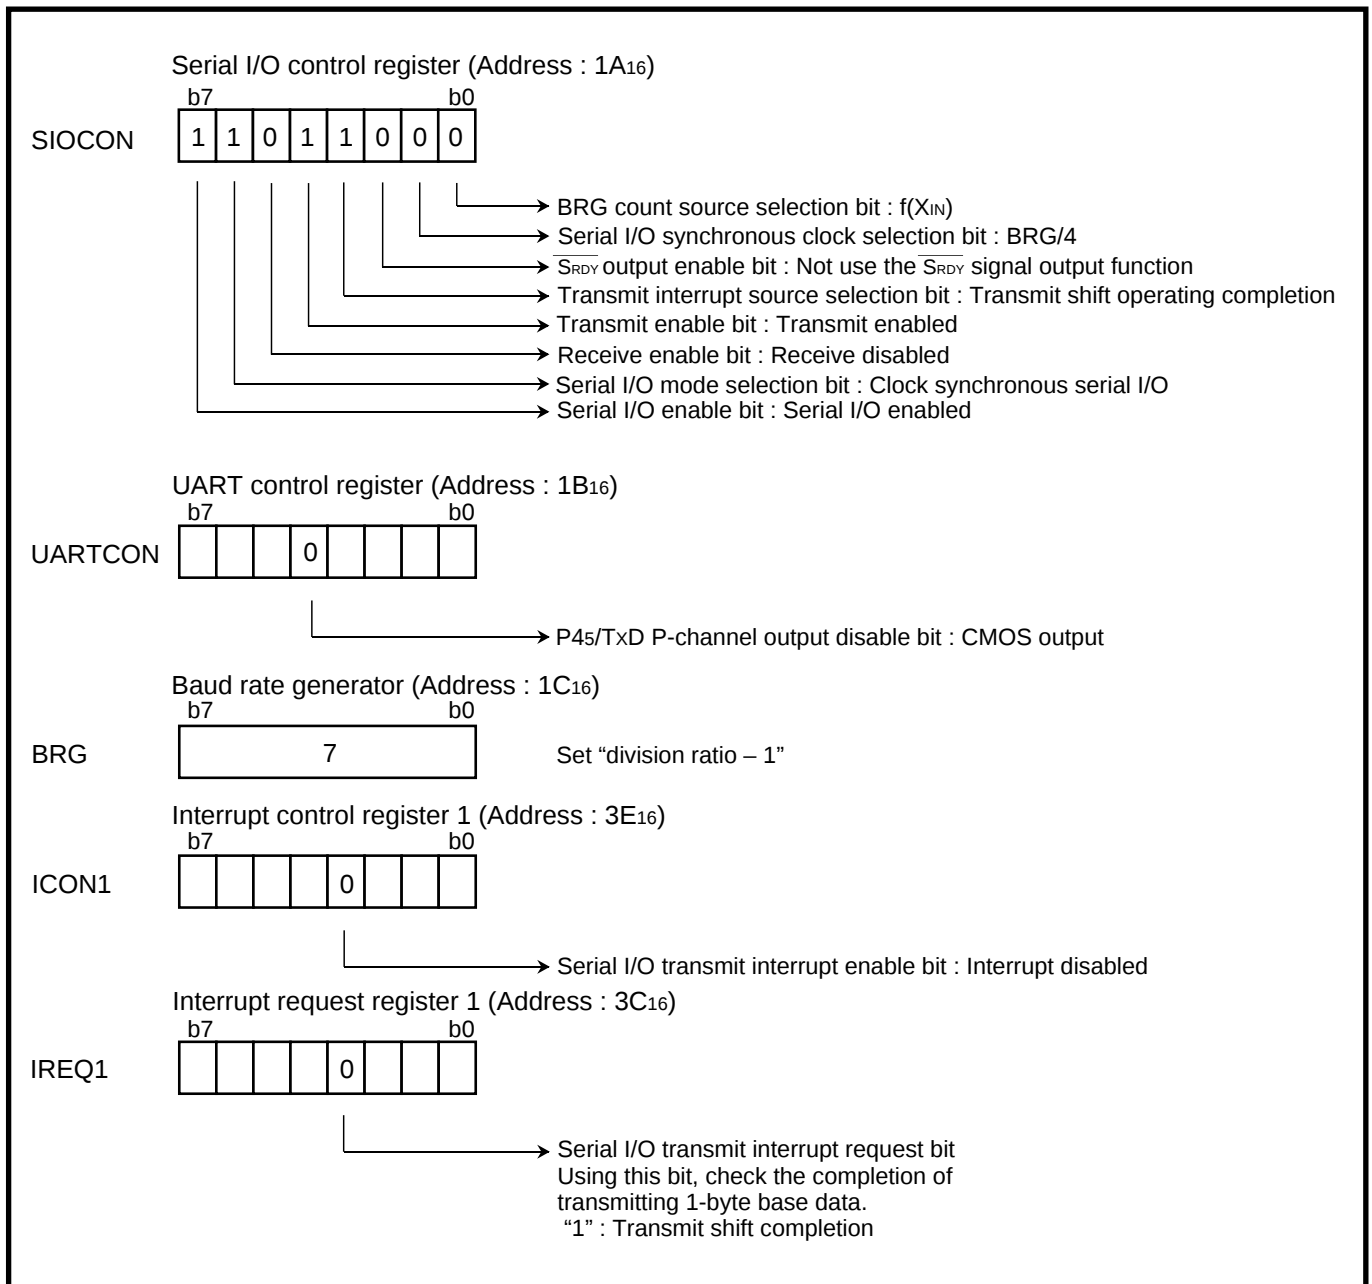
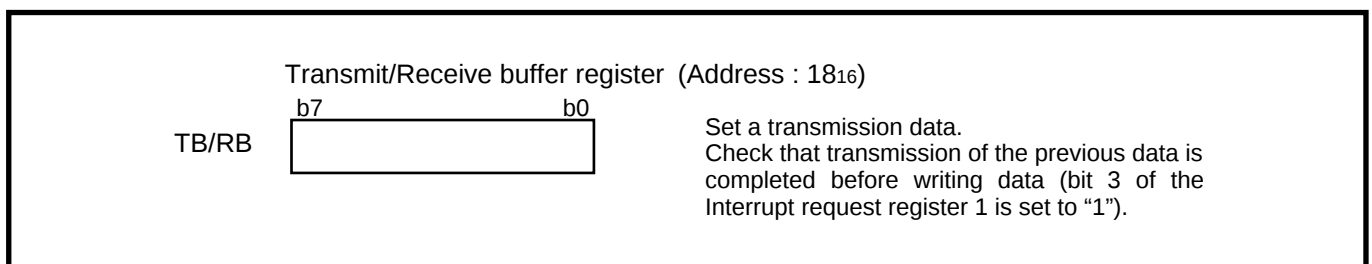

Fig. 2.3.21 Setting of serial I/O related registers [Output of serial data]
Fig. 2.3.22 Setting of serial I/O transmission data [Output of serial data]
Figure 2.3.21 shows a setting of serial I/O related registers, and Figure 2.3.22 shows a setting of serial I/O transmission data.
**Control procedure :** When the registers are set as shown in Figure 2.3.21, the Serial I/O can transmit 1-byte data simply by writing data to the Transmit buffer register. Thus, after setting the CS signal to “L,” write the transmission data to the Receive buffer register on a 1-byte base, and return the CS signal to “H” when the desired number of bytes have been transmitted.